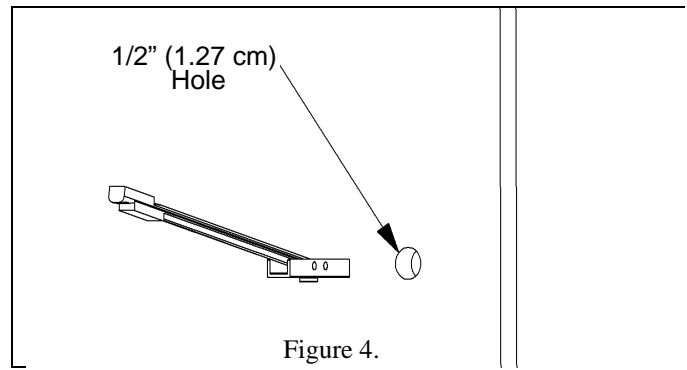

Figure 4.
1. Determine a suitable mounting location and lift the wall plate (10) into place (refer to "PARTS LIST" on page 3).
2. Drill a 1/2" hole at the desired location, making sure wall is at least 1/2" thick. If the wall is made with metal studs, it is recommended to install the anchor through the dry-wall and the metal stud (see Figure 4).